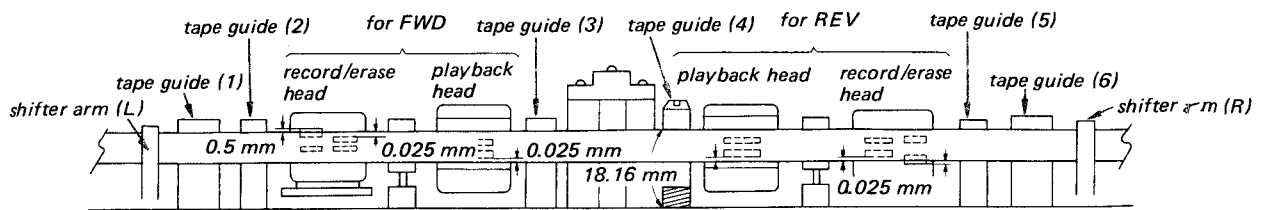

Fig. 3-26. Head adjustment
8. Make sure that the positioning relation between the head core and the tape is correct. See Fig. 3-26.